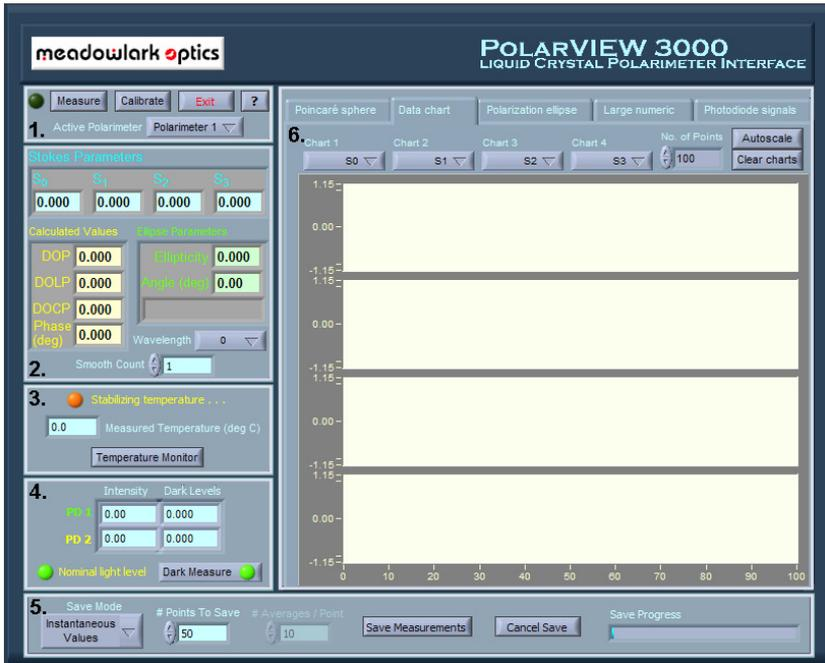

Figure 7. PolarVIEW 3000 Main Screen
- The user interface will immediately appear as shown in Figure 7. If there is an error detecting the USB device (the D3000 power is not on, cables are not fully inserted into connectors or USB drivers are not installed) a dialog box will appear. After correcting the problem click the “OK” button to connect to USB.
PolarVIEW 3000 is a user-friendly interface, Figure 7, which displays polarization data and allows the user to perform various operations. In addition to the controls and indicators described in the following sections, clicking the Meadowlark Optics logo displays software and firmware version.